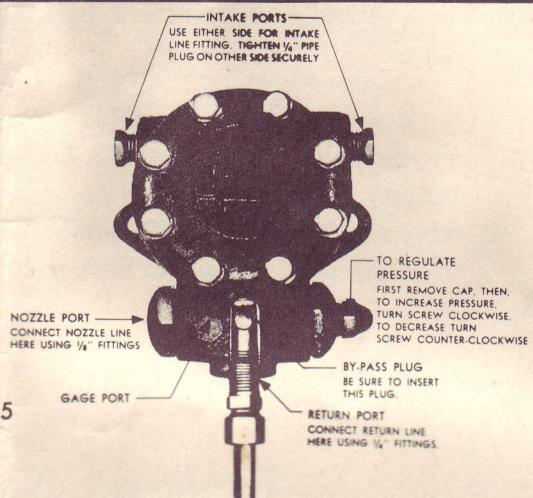

FIG. 5
**IMPORTANT:** On "two-pipe" system, Model H **must** be mounted with return port at bottom as shown in Fig. 5.
3. Remove internal by-pass plug from cloth bag. Insert as shown in Figure 5, and tighten securely.